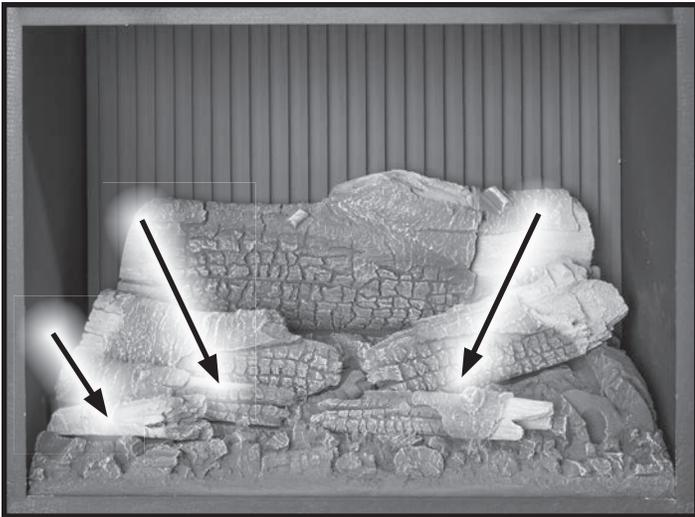

Figure 47. Front Ember Bed Logs.
5. Install the front three ember bed logs as shown in Figure 47. Note the locating notches on the backside of the logs. The depressions in the ember bed only allow the logs to be installed one way.
Step 5: Remove the cast side (left or right) by loosening the two (2) top mount bolts (Figure 47) using a 3/8" wrench. Next, lift up to remove the cast side and lay it down on a soft surface.